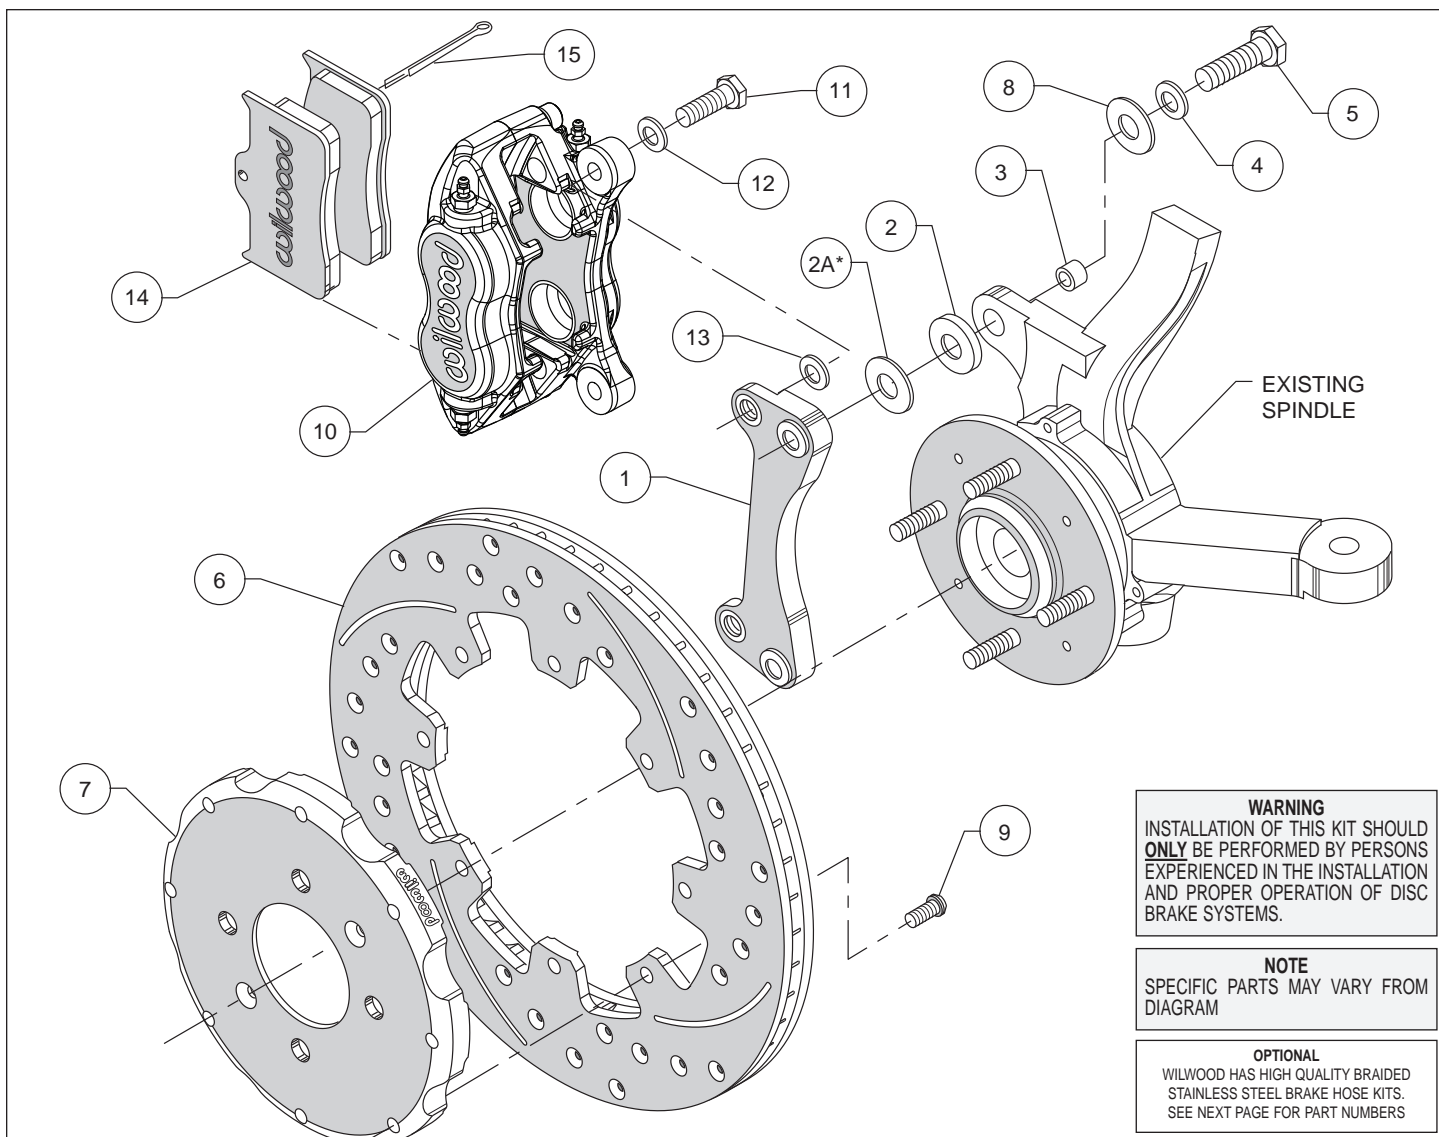
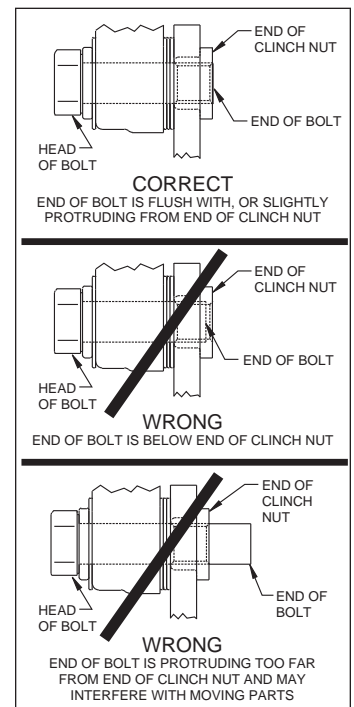

Figure 1. Typical Installation Configuration, Left Hand Application Shown
Figure 3. Clinch Nut Engagement Diagram
**Assembly Instructions** (numbers in parenthesis refer to the parts list and Figure 1 on the preceding pages): **CAUTION:** All mounting bolts must fully engage clinch nuts. Be sure to check that all bolts are either flush or protruding through flanged side of clinch nut after shimming, Figure 3.
- Insert one sleeve (3) into each hole of the spindle “ears”, Figure 1. Orient the caliper mount bracket (1) as shown in Figure 1, and install using bolts (5), washers (4) and shims (8). Position .125 thick spacer (2) [and washer (2A) for 2001 Honda Civic Only] between the spindle and bracket. Ensure that the flanged heads of the clinch nuts in the bracket are facing outboard, Figure 1. Temporarily tighten the mounting bolts. **NOTE:** The bracket must fit squarely against the mount bosses on the upright. Inspect for interference from casting irregularities, machining ridges, burrs, etc. Remove bolts one at a time, apply red *Loctite*® 271 to the threads and torque to 60 ft-lb.
- Orient the rotor (6) and the hat (7) as shown in Figure 1 and Photo 1. Attach rotor to hat using bolts (9). Using an alternating sequence, apply red *Loctite*® 271 to the threads, and torque to 25 ft-lbs.
- **NOTE:** Please reference the caution statement at the beginning of the assembly instructions. Mount the caliper (10) onto the caliper mounting bracket (1) using bolts (11) and washers (12), as shown in Figure 1. Initially place one .035" thick shim (13) on each bolt between the caliper and the bracket, Photo 2. Temporarily tighten the mounting bolts and view the rotor (6) through the top opening of the caliper. The rotor should be centered in the caliper, Photo 3. If not, adjust by adding or subtracting shims between the bracket and the caliper. Always use the same amount of shims on each of the two mounting bolts. **NOTE:** The end of each bolt must be flush with or slightly protruding from the head of the clinch nut, as shown in Figure 3. If necessary place spare shims between washer (12) and caliper mounting ear to achieve the proper clinch nut engagement. Once the caliper alignment and clinch nut engagement are correct, remove the bolts one at a time, apply red *Loctite*® 271 to bolt threads, and torque to 40 ft-lb.